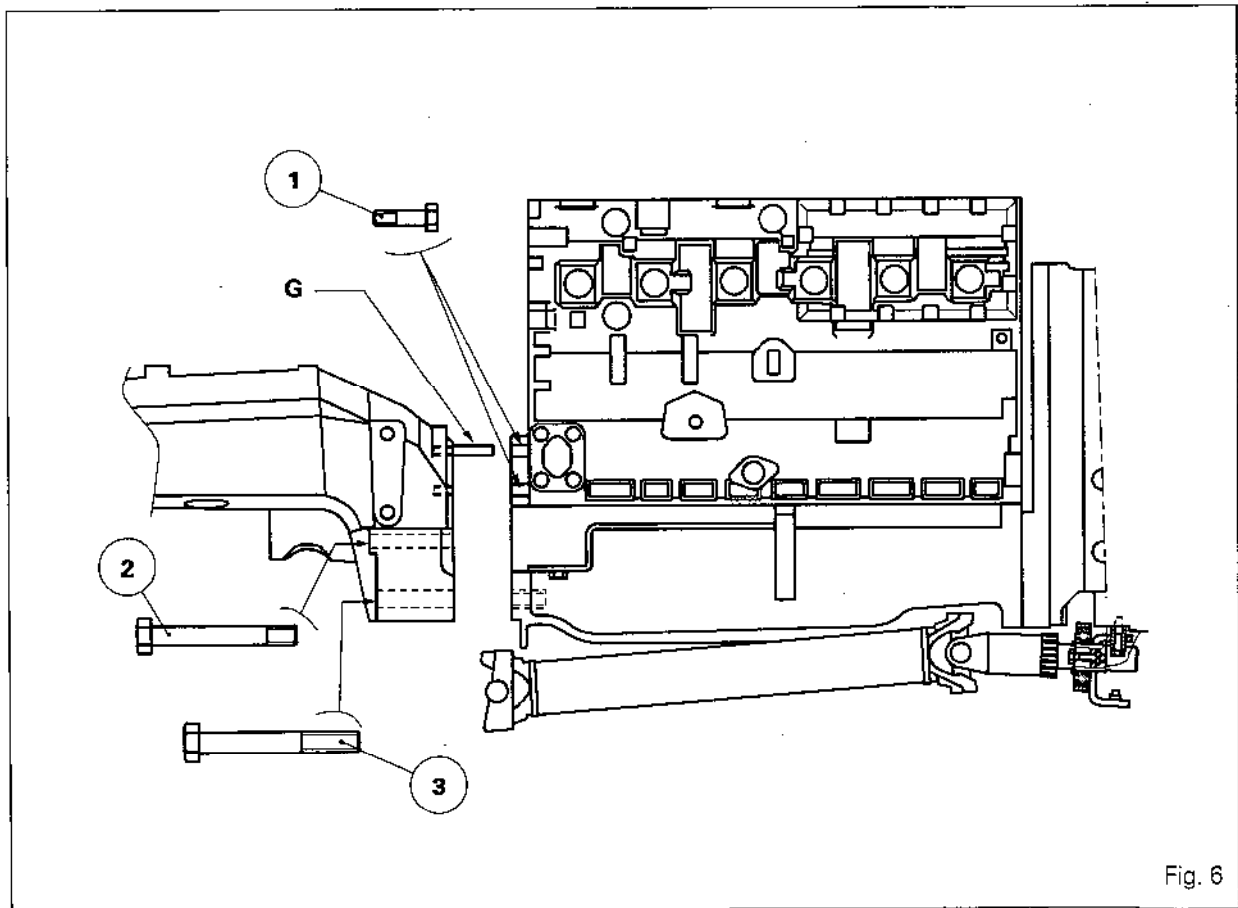

Fig. 6
34. Partially loosen attachment bolts (1) to (3) between the engine and the front frame (Fig.6).
35. Start the uncoupling operation using a trolley jack or the separating assembly, ref.3378152M11, placed under the frame.
Separate the assemblies (Fig. 6 - 7).
- Tighten the bolts to the torque shown (Fig. 6):
- bolt (1) : 240 - 320 Nm
- bolt (2) : 540 - 640 Nm
- bolt (3) : 670 - 900 Nm